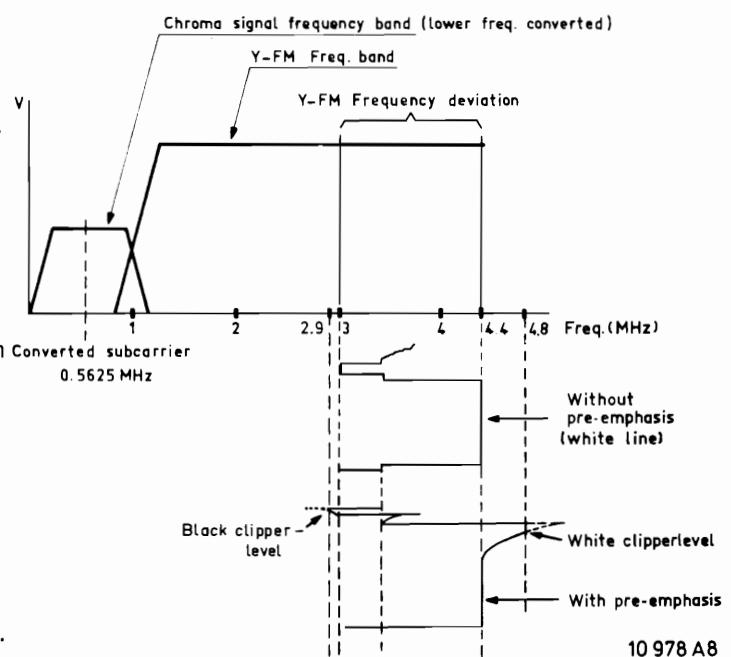

Fig. II-8
The luminance signal is converted to FM in the FM modulator, a sweep width of 1.4 MHz corresponds to peak white, and the frequency spectrum of the modulator is 3.15 to 4.55 MHz (Fig. II-8).
- The signal is submitted to a black and a white clipper (Fig. II-8).